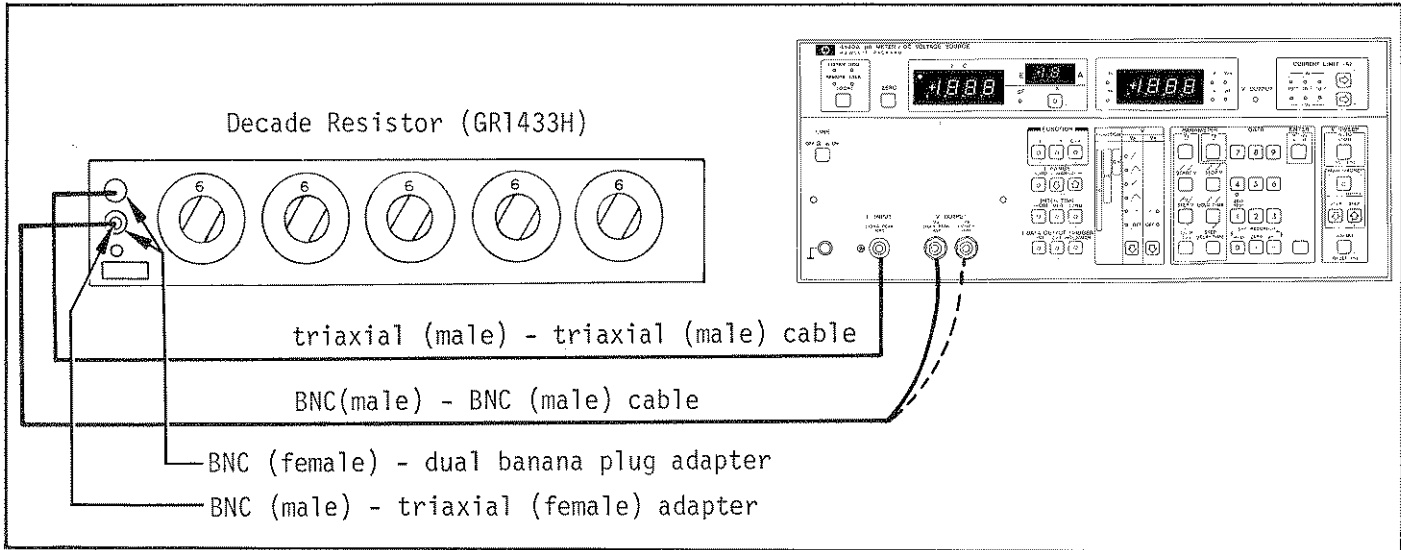

Figure 4-4. Current Limit Test Setup.
1. Connect Decade Resistor between V_A OUTPUT and I INPUT connectors of 4140A as shown in Figure 4-4.
- V_A = (DC)
- V_B = (DC)